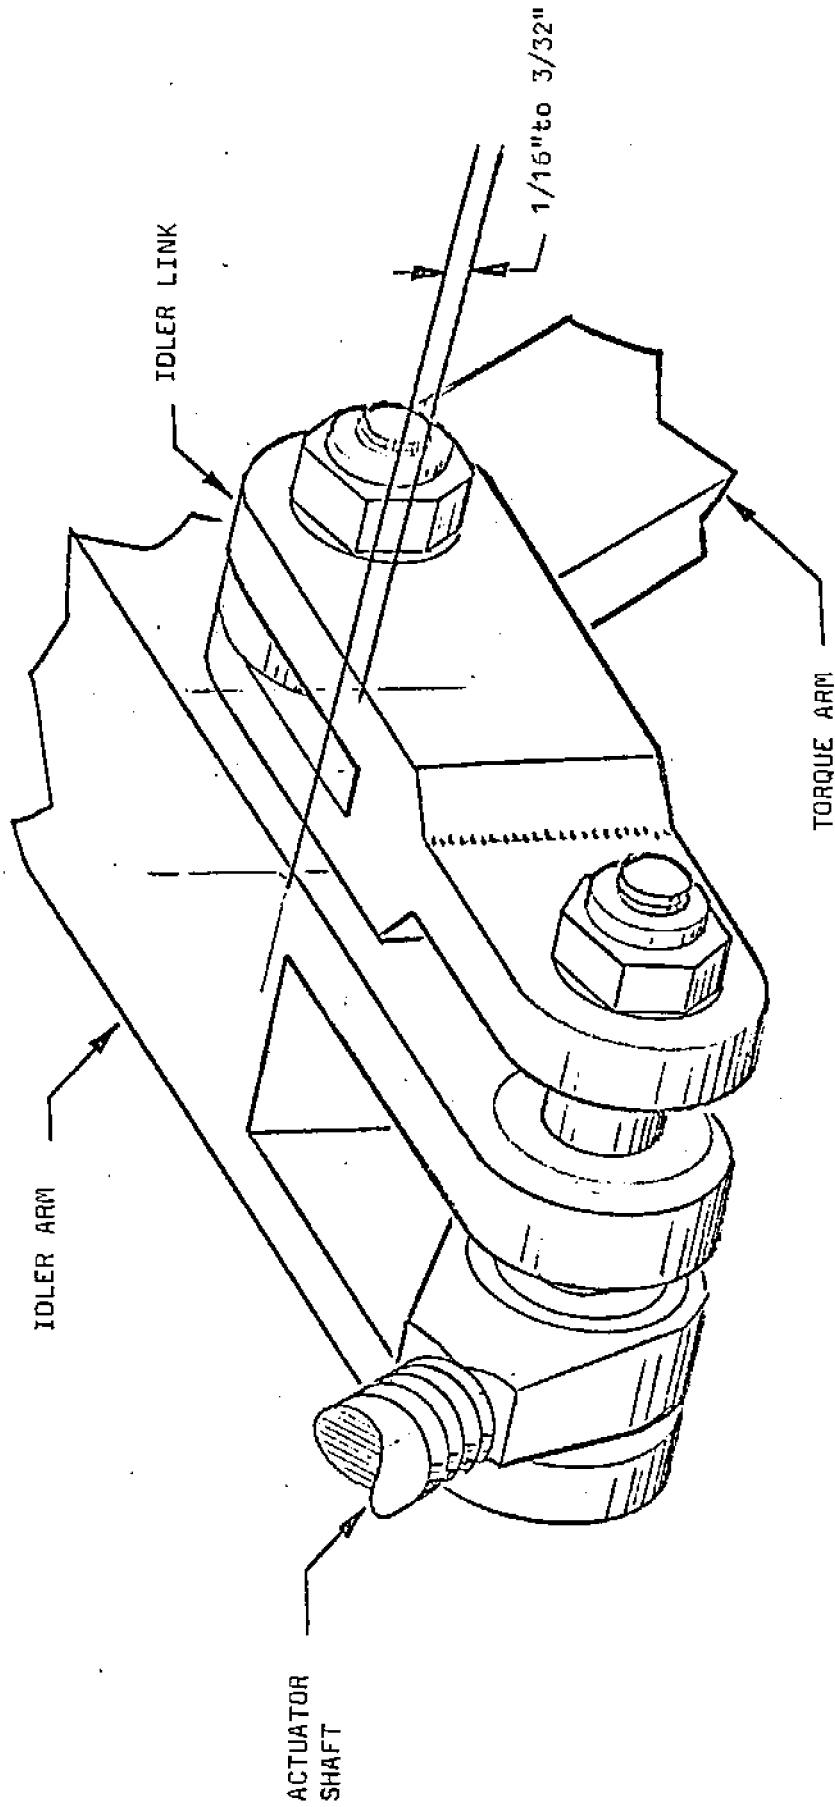

Figure 3-1. The past center lock mechanism.
- C. Check the operating linkage to see if a step off of approximately 1/16th inch exists between the edge of the idler arm and the edge of the idler link, as shown in Figure 3-1.